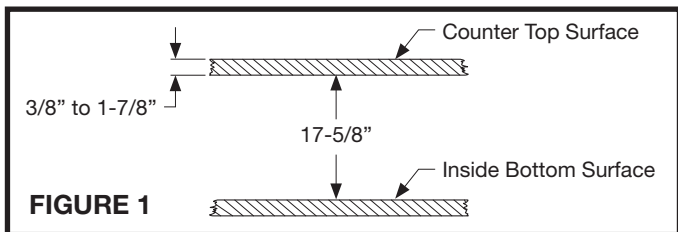

FIGURE 1
1. Select desired counter top surface. Surface must be between 3/8" and 1-7/8" thick and have underneath clearance of at least 17-5/8" (see Figure 1).